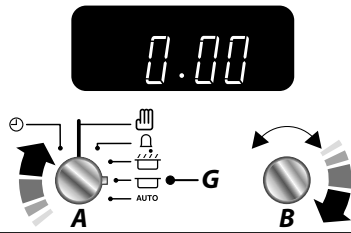

Fig. 2.33
2. Turn the **Adjusting (B)** knob clockwise, the display will show the current time of day (**Fig. 2.33**).
3. Continue to turn the **Adjusting (B)** knob to the amount of time required e.g. 1 minute. The display will show the current time plus the required length of time you have set (**Fig. 2.33**).
4. Turn the **Timer (A)** knob to the **Auto (H)** setting (**Fig. 2.33**). The display will show the current time, the Cooking symbol and the word **'AUTO'**.